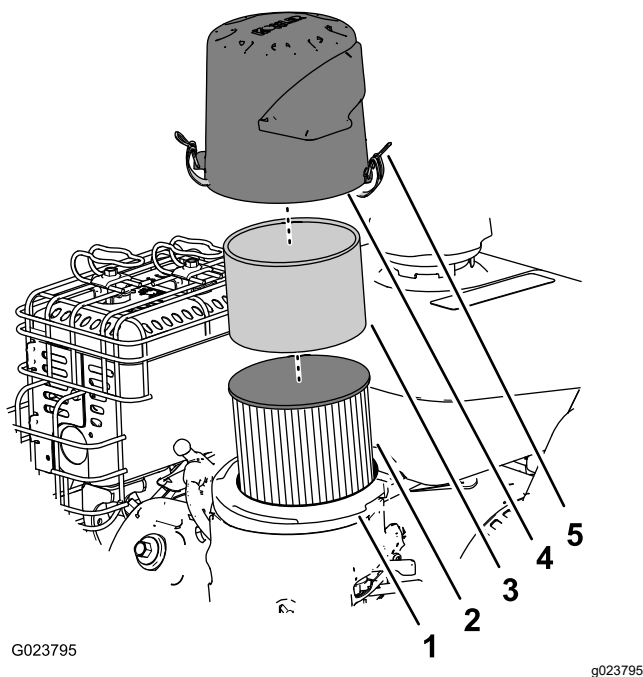

Figure 25
- Remove the cover and clean it thoroughly (Figure 25).
- Latch on the air-cleaner cover (2)
- Remove the foam pre-cleaner, wash it with a mild detergent and water, and then blot it dry (Figure 25).
- Remove and inspect the paper air filter (Figure 25); discard it if it is excessively dirty.
- Install the foam pre-cleaner onto the paper air filter (Figure 25).
- Install the air filter assembly to the air-filter base (Figure 25).